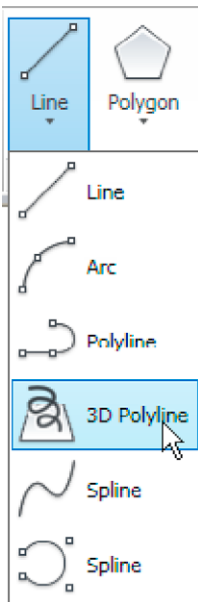
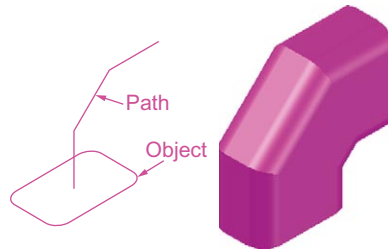

Fig. 12.15 The **3D Polyline** tool from the **Home/Draw** panel
Fig. 12.16 Second example – Extrude
Third example – Extrude (Fig. 12.16)
2. Construct an **80 × 50** rectangle, filleted to a radius of **15**. Then in the **3D Navigation/Front** view and using the **3D Polyline** tool from the **Home/Draw** panel (Fig. 12.15), construct **3** 3D polylines each of length **45** and at **45 degree** to each other at the centre of the outline as shown in Fig. 12.16.
The result is shown in Fig. 12.16.